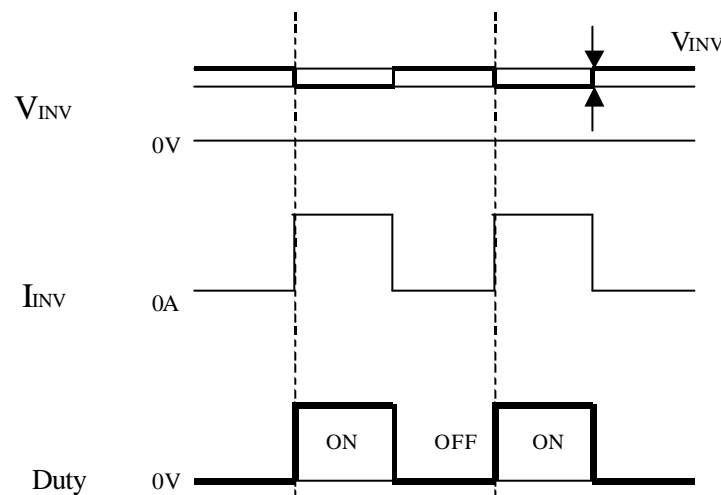

Fig.5 Brightness control voltage.
- c) Brightness control voltage is switched for "ON" and "OFF", as shown in Fig.5. Voltage difference generated by this switching,  $V_{INV}$ , may affect a sound output, etc. when the power supply is shared between the inverter and its surrounding circuit. So, separate the power supply of the inverter circuit with the one of its surrounding circuit.